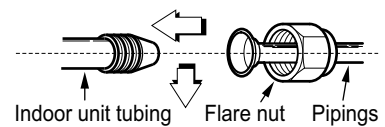

Fig.51
- Sufficiently tighten the flare nut with fingers, and then tighten it with a spanner and torque wrench as shown in Fig.51 & 52.
- Remove the electrical control board cover from the outdoor unit by loosening the screw as shown in Fig.51.